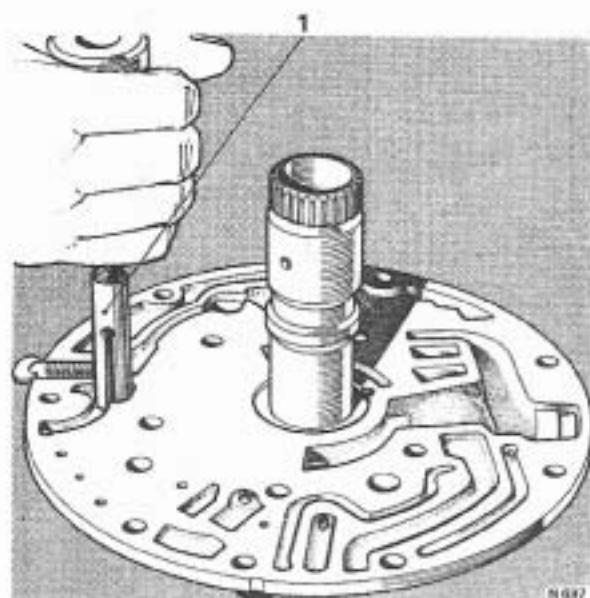

FIG. T227 REMOVING THE BY-PASS VALVE SEAT
- 1. Using pump by-pass valve seat remover RH 7963 (J-21361), in conjunction with slide hammer RH 7958 (J-6125) and the $\frac{3}{8}$ in. \times 16 threaded adapter, fit the removal tool into the valve seat and drive upward on the slide hammer (see Fig. T227); remove and discard the valve seat.